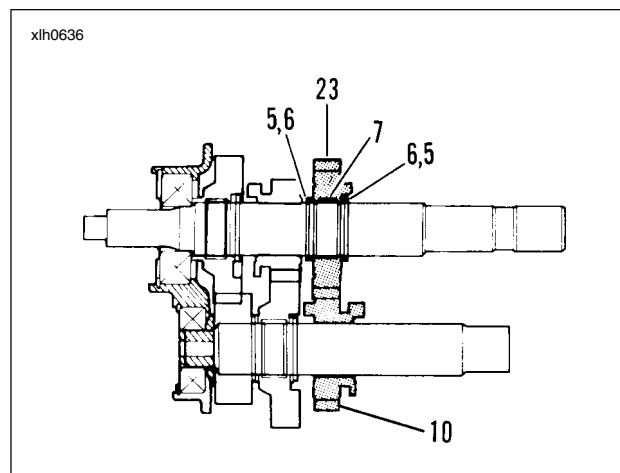

Figure 6-44.
10. See Figure 6-44. At mainshaft, install retaining ring (5) and thrust washer (6). Install split bearing (7) in seat next to thrust washer (6).
11. Install mainshaft 3rd gear (23) onto shaft over bearing (7).
12. Install thrust washer (6) and retaining ring (5) next to gear (23).
13. Install countershaft 3rd gear (10) onto shaft. The shifter fork groove must face away from the access door.